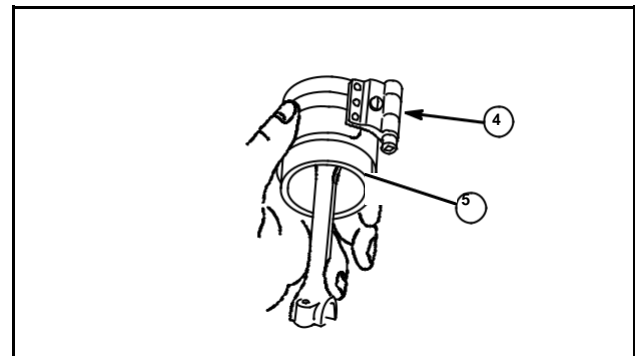

Fig. 12
2. Insert the piston assembly (5) into the piston ring compressor (4), Fig. 12. Use Ring Compressor, Tool #19070 (Model Series 60000 through 130000), or Ring Compressor Tool #19230 (Model Series 170000 and up).